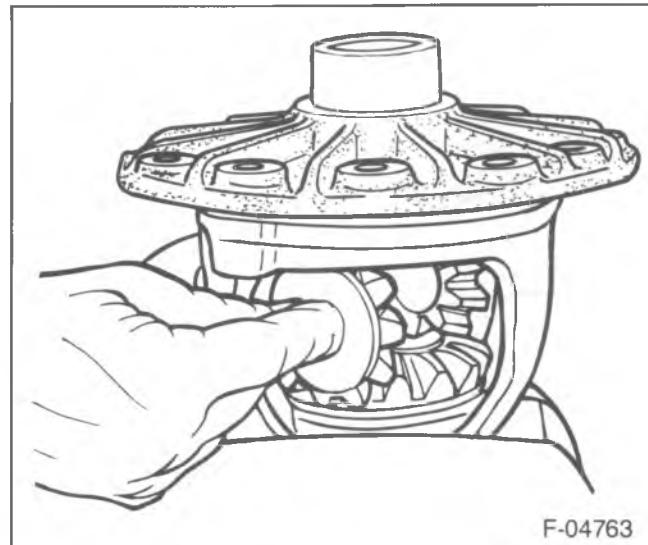

Figure 140—Installing the Pinion Gears
- 1. New side gear thrust washers (27) to the side gears (25).
- 2. Side gears (25) to the differential case.
- Place the side gears in place on the same side as removed (figure 140).
- 3. Pinion gears (24) to the differential without the thrust washers (26).
- 4. New pinion thrust washers (26).
- 5. Pinion shaft (28).